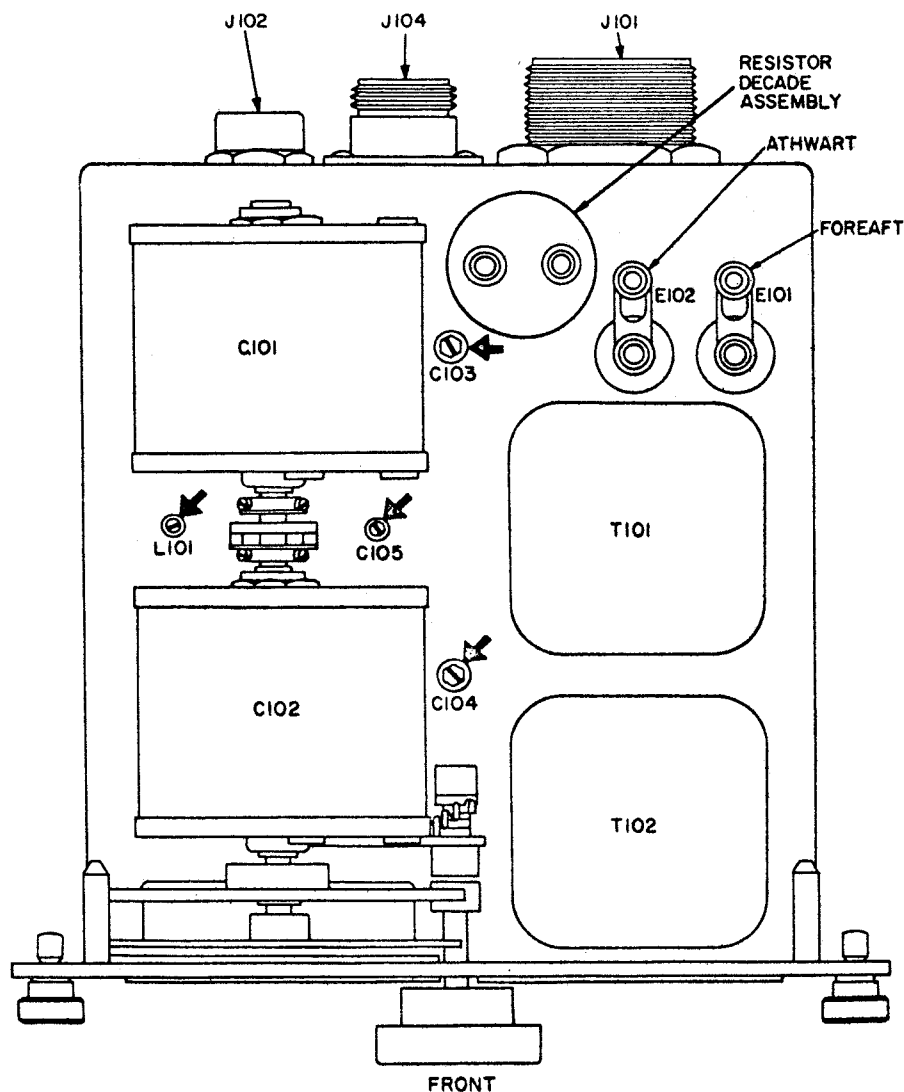

Figure 6-5. Alignment Points on Antenna Coupler CU-352/BRR.
(1) All preliminary tests have been made to indicate the equipment is in proper working order.
(2) Sensitivity and over-all Q tests show the antenna coupler is in operating condition.
(3) The coupling which holds the shafts of the main tuning capacitors is not loose.
(4) Omni-directional reception is not obtained.
b. CALIBRATION PROCEDURE.— The following steps, if followed correctly, will align the antenna coupler so that reception will be equal within $\pm 1\frac{1}{2}$ db (decibel) from all directions simultaneously. See figures 6-5 and 6-5A.